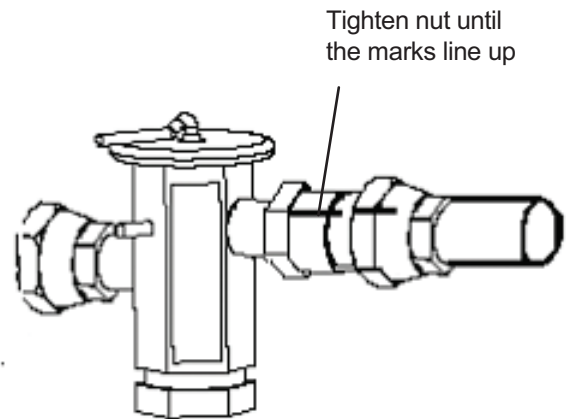

Figure 2
TXV (A) . Then using a back-up wrench, tighten each nut an additional 1/6 turn (or 1 hex flat). The alignment of the lines will show the amount that the assemblies have been tightened. This final 1/6 turn is necessary to ensure the formation of leak proof joints. **See Figure 2.**